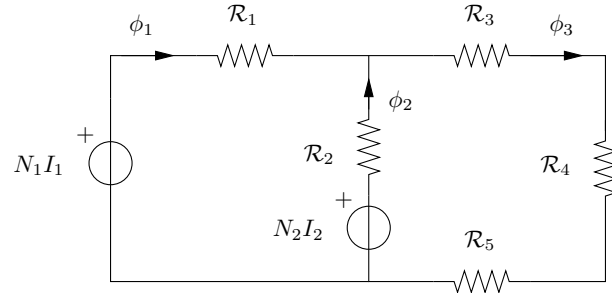

Figure 6
a. The reluctances of the magnetic circuit are (see Figure 6):